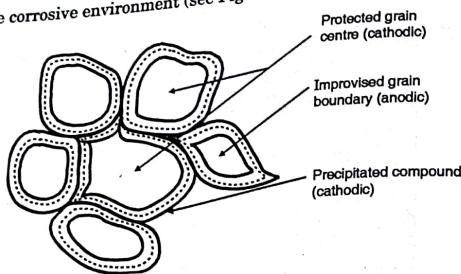

Fig. 1.3.2(a) : General intergranular attack
- The solid solution thus formed is *anodic* with respect to the grain centres as well as to the precipitated compound. Hence it gets attacked preferentially in the corrosive environment (see Fig. 1.3.2(a)).